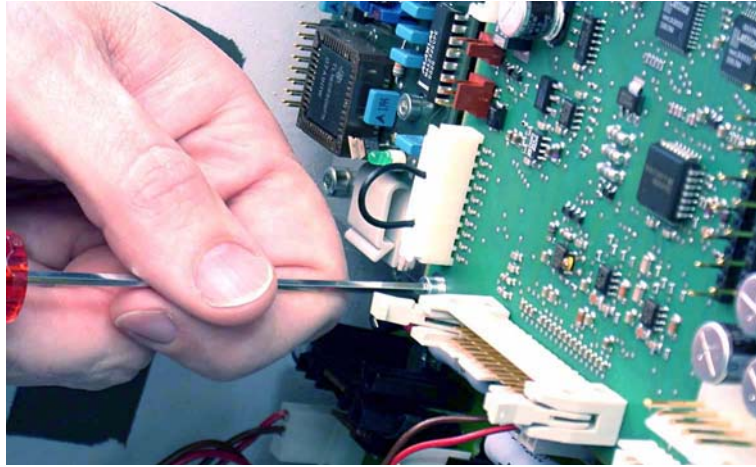

Figure 11-53. Removing the grounding screw
4. Remove the single grounding (earthing) screw securing the control board to the aluminium mounting plate. (Figure 11-53.)